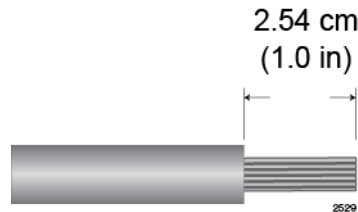

Figure 134. Stripping the solid or Stranded Grounding Wire
1. Prepare an adequate length of solid or stranded 10 AWG grounding wire by stripping it as shown in Figure 134.